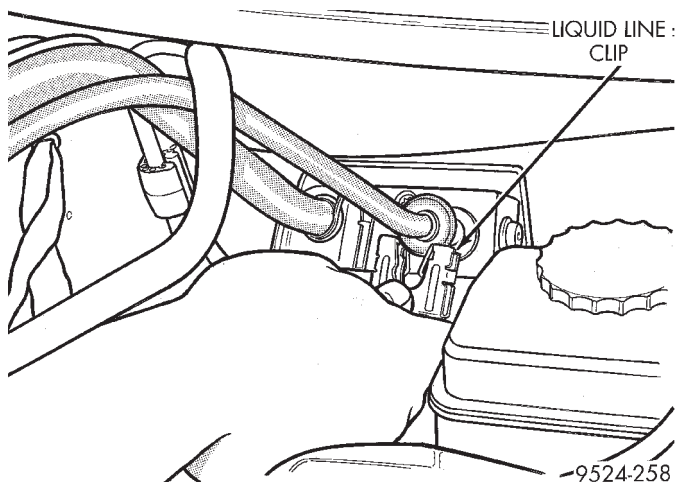

**Fig. 58 Liquid Line Clip At Expansion Valve**
(1) Remove refrigerant from the A/C system using a refrigerant recovery machine.
(2) Remove A/C quick connect clip at expansion valve (Fig. 58).